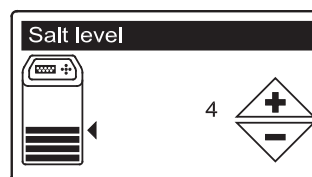

FIG. 12
9. **SALT LEVEL** Press the UP (▲) or DOWN (▼) buttons to set the salt level (See Figure 12). It should match the lowest number visible on the brinewell above the salt.